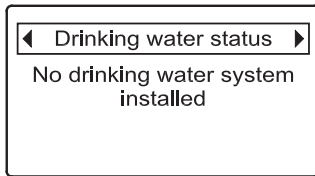

FIG. 56
If a communications-capable drinking water filtration (RO) system has been added to the remote, it will have its own status screen displayed during normal operation. Otherwise, a drinking water status screen will display a message like the one shown in Figure 56.
1. Press the remote's LEFT (◀) or RIGHT (▶) buttons to manually advance to the **Drinking water status** screen (See Figure 56).